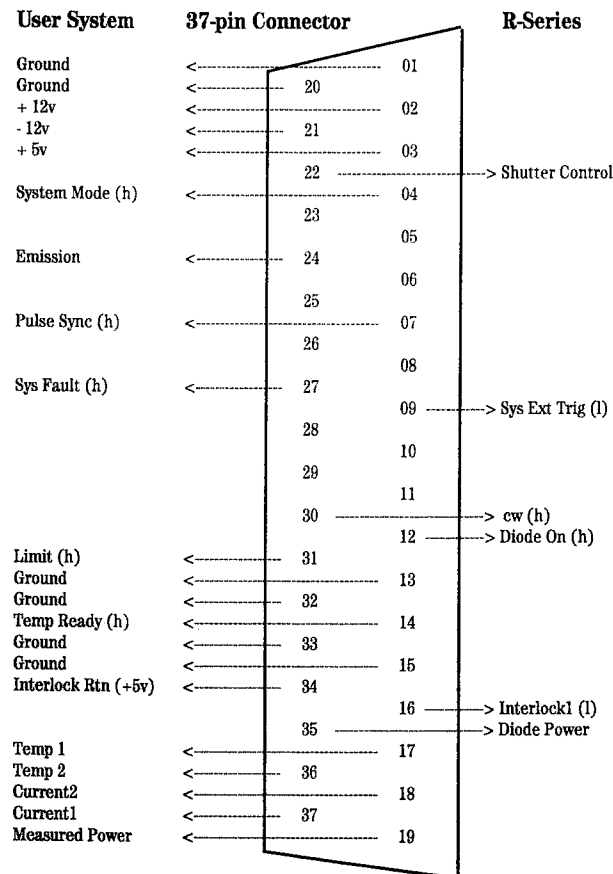

FIGURE 3-5: 37-Pin Backpanel D-Connector Pinout
Refer to figures 3-5 and 3-6 for connector pin identification. Connect pins 16 and 24 to an external interlock.
For detail refer to the pinout (Figure 3-5) and signal description (Figure 3-6).
Apply an analog voltage on pin 35 (DIODE POWER) to determine diode power (see Figure 3-5). Apply TTL high to pin 12 (DIODE ON) to enable diode emission. Apply TTL high to pin 30 (CW). The rf power to the Q-switch will be turned off, allowing cw output.
See the following interface description (Figures 3-5 and 3-6) for detail.
The following two figures (Figures 3-5 and 3-6) describe the user interface in detail.